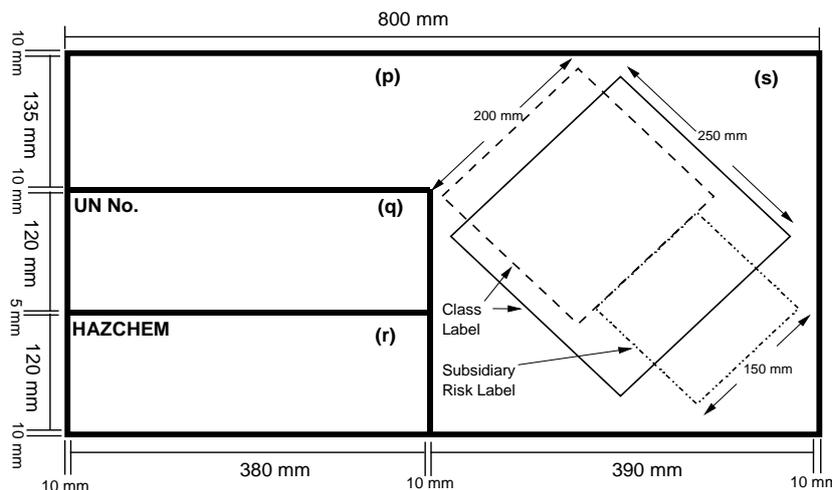

Figure 2 Template for a placard for a hazardous chemical stored in bulk
- a. comply with the template in figure 2; and
- b. subject to notes below figure 2 have dimensions not less than those shown in figure 2.
The placard must include the following in figure 2 for the hazardous chemical (*see notes below):
For spaces (p), (q) and (r) in figure 2 the numerals and letters used for showing the proper shipping name, UN number and Hazchem Code must be:
For space (s) in figure 2:
- a. comply with the form in figure 2; and
- b. have dimensions not less than those shown in figure 2.
The placard must include the following, as indicated in figure 2, for the hazardous chemical:
For space (p) in figure 2, the letters used for showing the name must be: